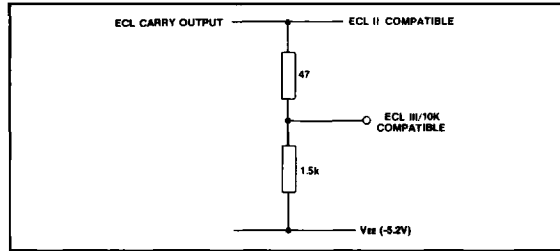

Fig.7 ECL III/10K interfacing
4. The Carry O/P is ECL II compatible but can be interfaced ECL III/10K by the inclusion of two resistors. See Fig. 7.